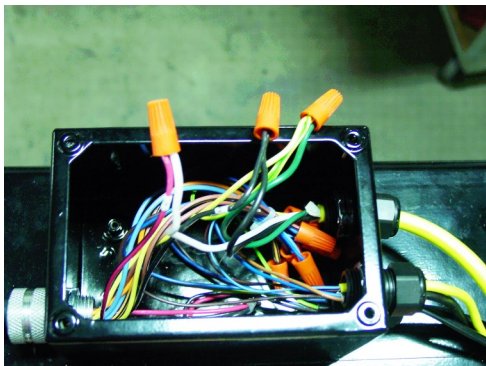

Figure 1
2. Place bowl feeder on machine into spaces provided, noting location of bowl exit. Wire the bowl feeder to Wires 2, 5 & GND located in the Junction Box on the top of the machine. (See Figure 1)
5. Install the front guard using the four (4) 1/4 inch truss head screws provided.